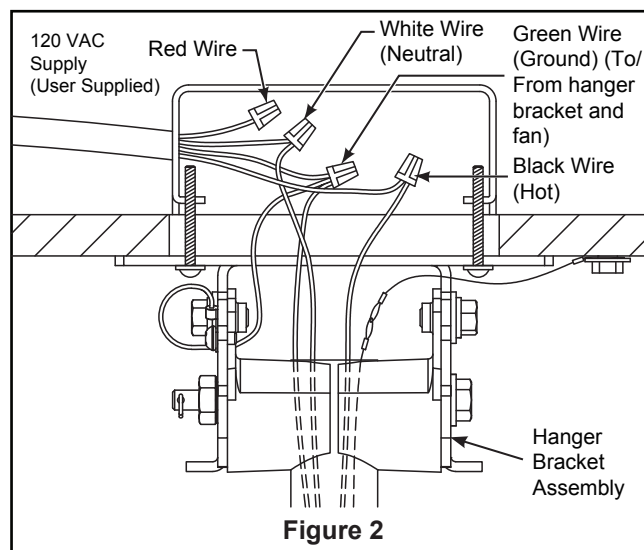

Figure 2
- ☐ 3. Securely connect the white wire from the fan motor to the white supply (neutral) wire using wire connector supplied. (Figure 2)
- ☐ 4. Securely connect the black fan motor wire to the black supply wire using wire connector supplied. (Figure 2)
- ☐ 2. If airflow is desired in the opposite direction, use the reverse switch located on the top of motor assembly. Turn clockwise once for summer airflow (downward) and turn clockwise twice for winter airflow (upward). (Figure 2)